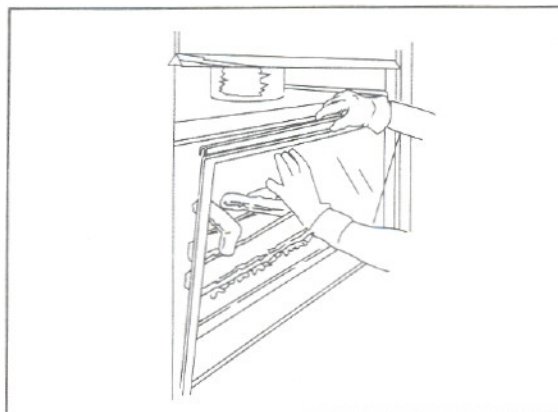

Figure 19A
2. Remove Glass Panel from unit by pressing the glass retainer bar up over the glass. Allow the glass to tilt out and then remove. Carefully set aside the glass panel. (See Figures 19A and 19B).
Remove the glass panel from the unit. See Figures 19A and 19B on page 16.